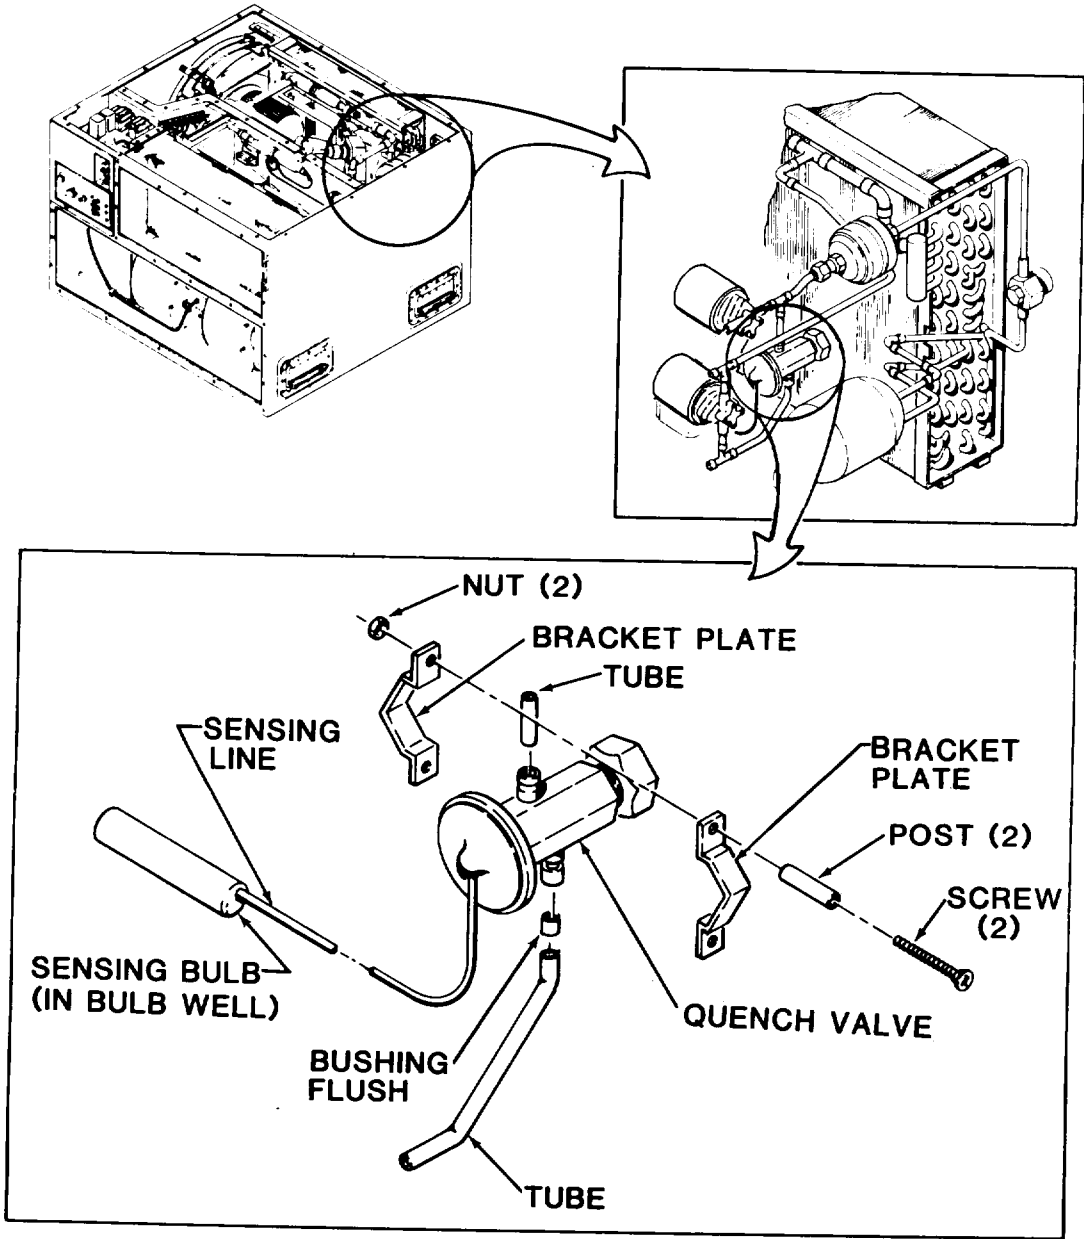

Figure 5-11. Expansion Valve (Quench)
a. Removal. (See fig. 5-11.)
(1) Disconnect power at power source.
(3) Discharge and purge refrigeration system per paragraphs 5-11 and 5-12.
(4) Unwrap insulation from joints of the expansion valve.
(5) Soften the thermal mastic in bulb well using a cloth wrung out in hot water, a heat lamp, or heat gun if necessary and withdraw the bulb from the well.
(6) Debraze two tube connections to valve. If flush bushing is to be reused, remove it from old valve.
(7) Remove two screws, post spacers, brackets, and lock nuts.
(8) Remove valve from the unit.